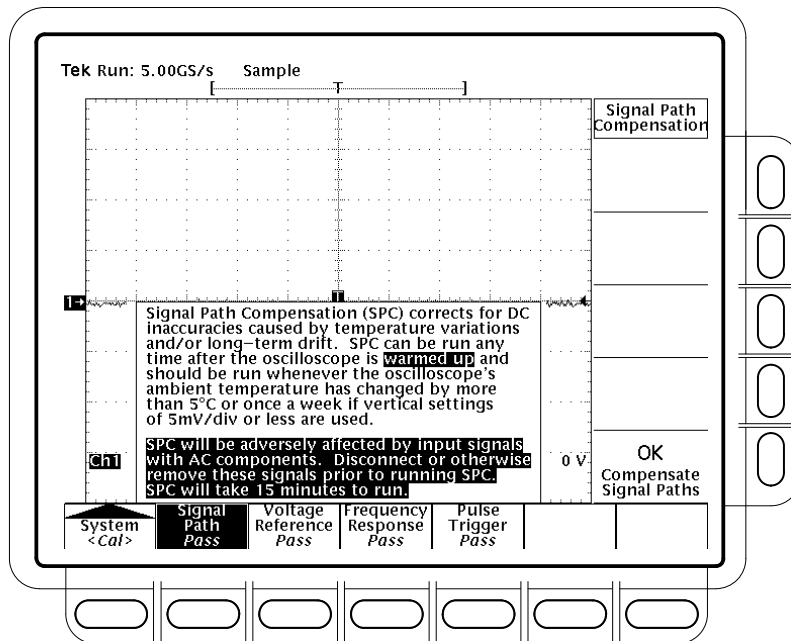

Figure 3–62: Performing a Signal Path Compensation
5. Verify the word *Pass* appears under **Signal Path** in the main menu. (See Figure 3–62.)